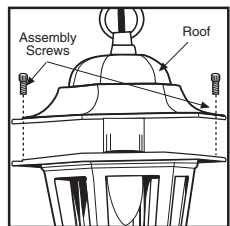

Figure 1
- For two screw and multiple screw assembly roofs, remove assembly screws on roof (or underneath roof) and insert bulb(s). Reattach roof (see figure 1).